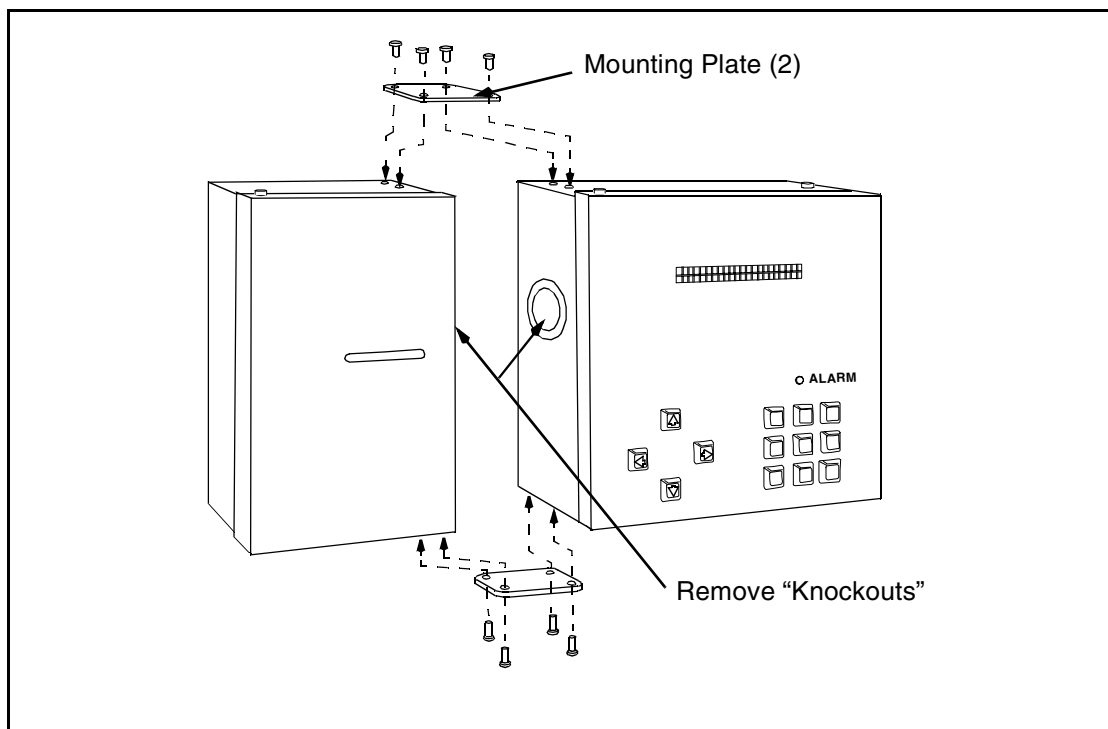

Figure 3. Attaching the Optional Printer
2. Carefully remove the knockouts on the console and the printer [Figure 3]. Do not pound or shock the unit during knockout removal.